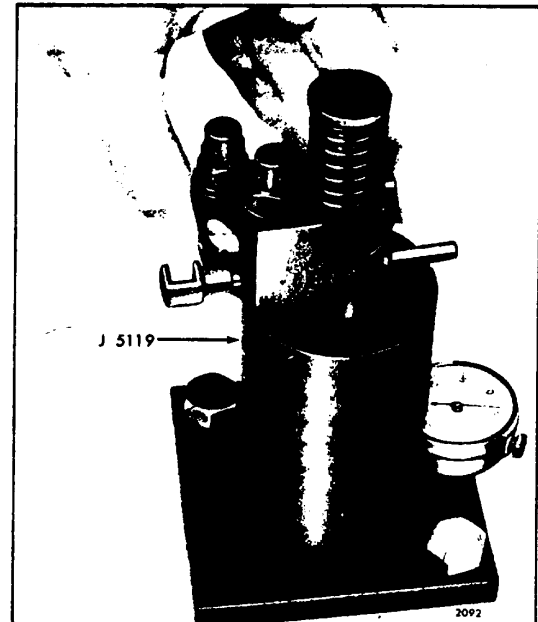

Fig. 42. - Checking Injector Spray Tip Concentricity
1. Place the injector in the concentricity gage J 5119 as shown in Fig. 42. and adjust the dial indicator to zero.